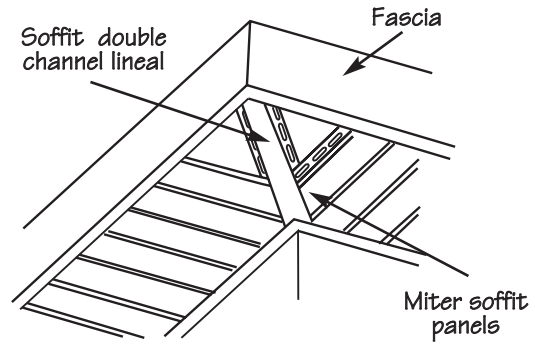

Figure 67.
Vinyl soffit is designed to be easily installed lengthwise from wall to fascia (see Fig. 67). Soffit panels are similar to vertical siding. Manufacturers produce both solid and vented panels.
4. To turn a corner, measure from the channel at the wall corner to the channel at the corner of the fascia board (Fig. 67). Subtract 1/4" for expansion. Cut and install soffit double channel lineal or back-to-back J-channel. If necessary, install nailing strips to provide backing for the lineal. Miter cut the corner soffit panels and install as described in Step 3.